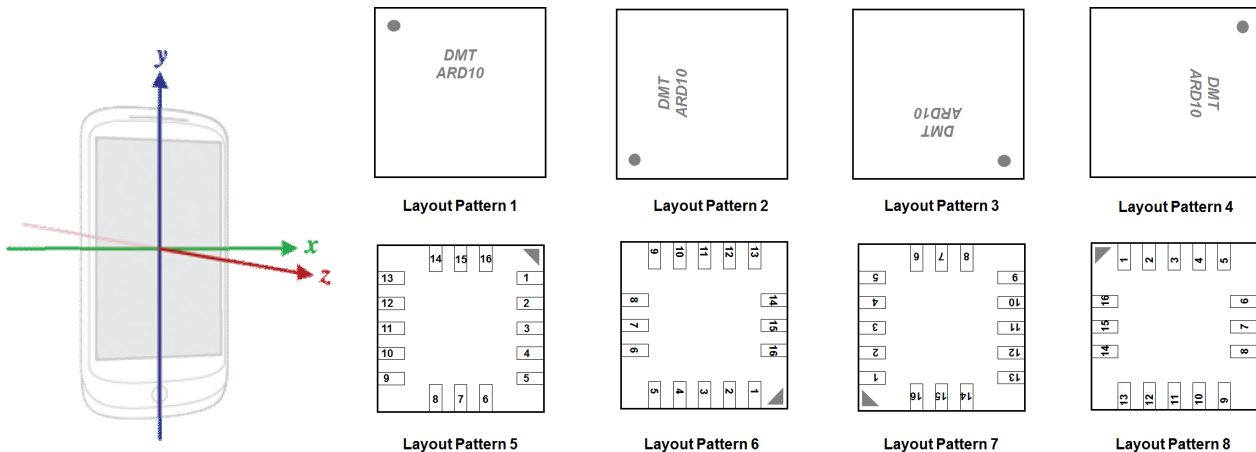

Figure 1: Android SensorEvent Coordinate System and DMARD10 Layout Patterns
2. Specify the g-sensor layout by defining one of the following macro in “dmt10.h”. The example code uses layout pattern 1. See Figure 1 for other g-sensor layout pattern orientations.
The coordinate system used by the Android SensorEvent API is defined relative to the screen of the phone in its default orientation, as shown in the Figure 1. Specify the g-sensor layout to one of the layout patterns illustrated below.